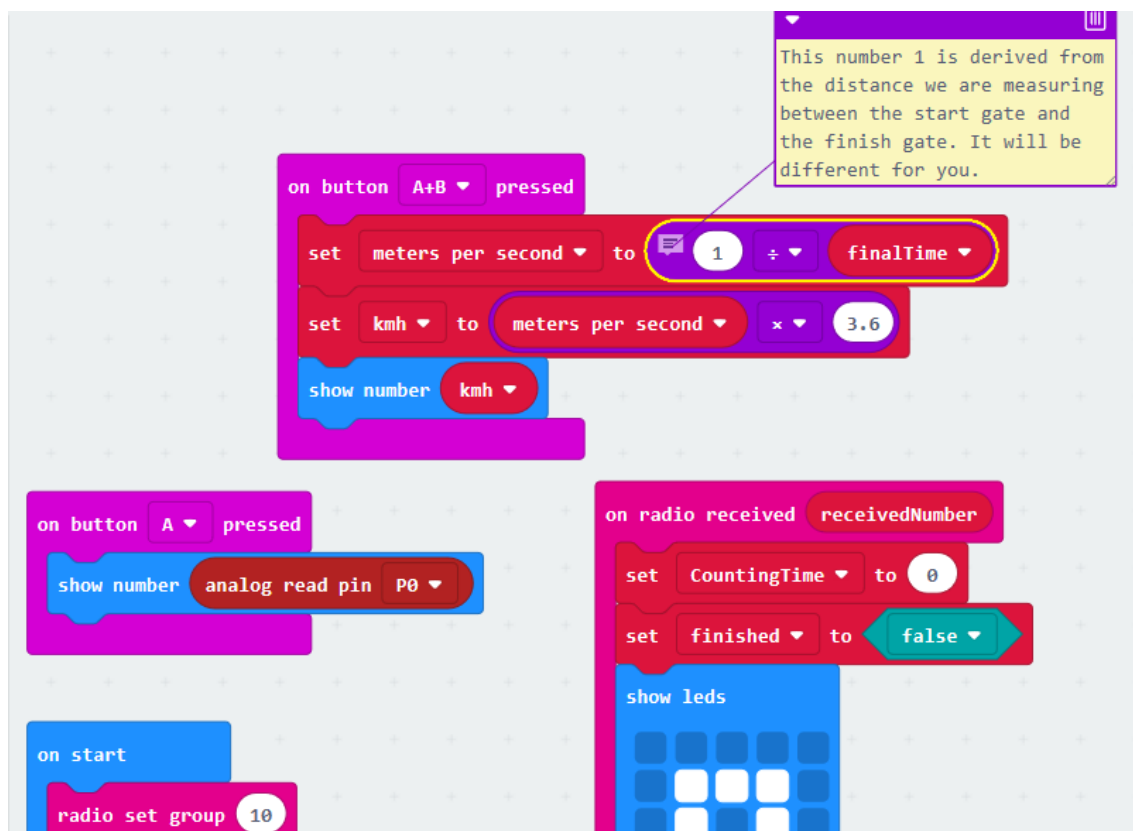
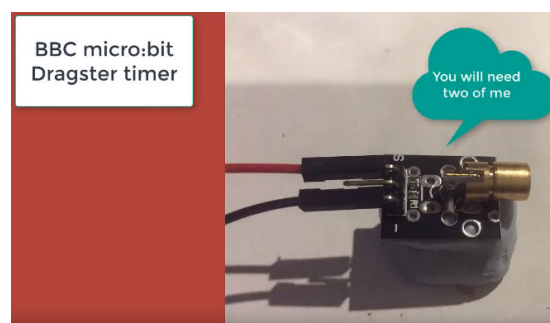

Figure 15
Figure 16: Screen shot from ACARA's video: Digital start finish line tutorial
When readings are above the threshold (30) and students are ready to go, let them test their cars and see how fast they travel. You could get them to do all the mathematics to work out the speed each time. Certainly, just looking at the time will tell the fastest cars. You could also program the micro:bit to work out the speed for you. The code shown in Figure 15 will work out the average speed in kilometres/hour.
Your algorithm will vary compared with the example shown as you will probably be measuring over a greater distance than one metre. Check the coder comments in Figure 15. The video at <https://youtu.be/jl4JmfPRsK4> (Figure 16) explains the whole process.